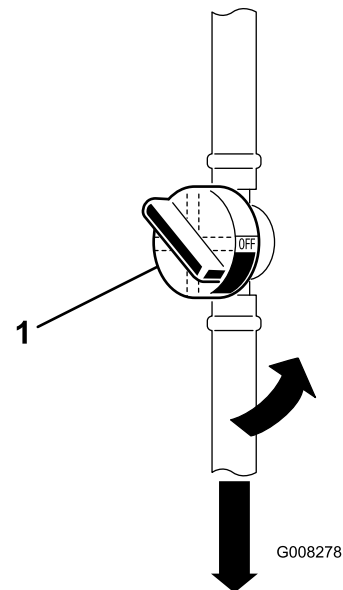

Figure 28
6. Close the fuel shut-off valve (Figure 28).
7. Squeeze the ends of the hose clamps together and slide them away from the old fuel filter (Figure 28).